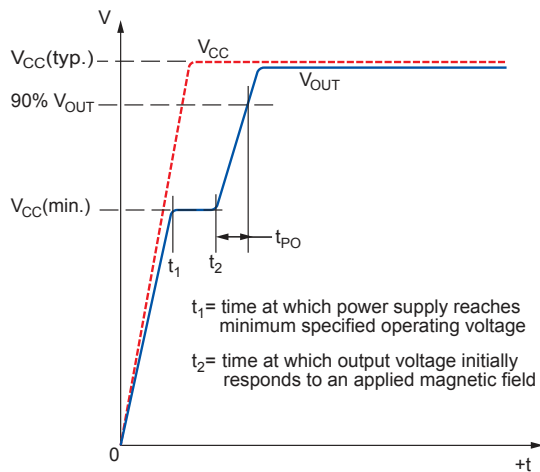

Figure 1: Power-On Time definition
**Power-On Time:** When the supply is ramped to its operating voltage, the device requires a finite time to react to an input magnetic field. Power-On Time,  $t_{PO}$ , is defined as the time it takes for the output voltage to settle within 90% of its final value in response to an applied magnetic field, as shown in Figure 1.